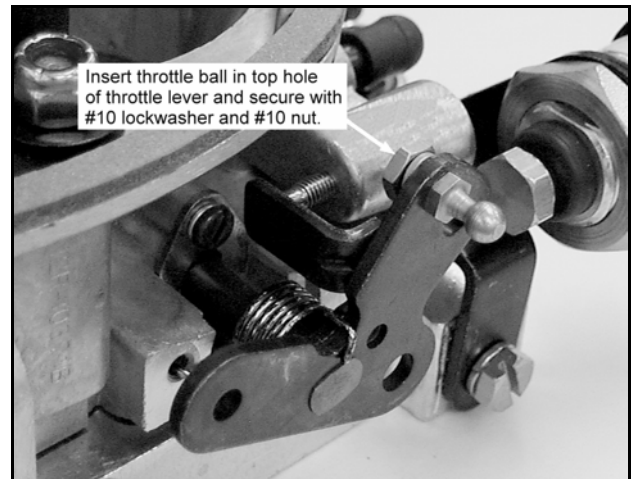

Figure 3
- 7 - Place the air cleaner bail over the two TBI mounting studs with the air cleaner stud over the pressure regulator on the TBI. Secure with the TBI mounting nuts. Do not place a nut on the third TBI mounting stud until after the fast idle solenoid bracket is installed. One the fast idle solenoid bracket is installed, torque each nut to 5 to 7 ft. lbs in a criss cross pattern. See Figure 3.
- 4 - Insert throttle ball in top hole of throttle lever and secure with #10 lockwasher and 10-32 nut. See Figure 3.